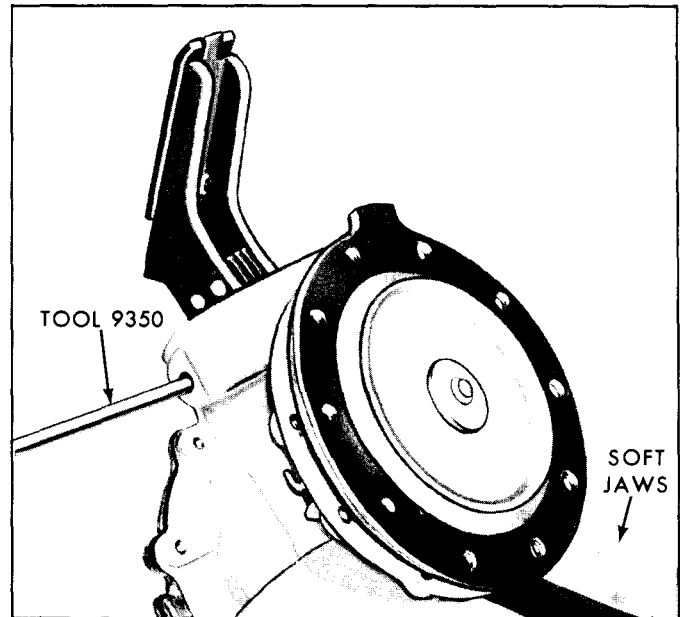

Fig. 9B-5—Rocker Arm Pin Removal or Installation—(60C-6809)
7. File or grind the peened end of rocker arm pin flush with the washer. Remove the retaining washer. Using Tool 9350, drive the pin out of the main body. See figure 9B-5. Work the fuel pump and vacuum booster links out of the diaphragm stems.